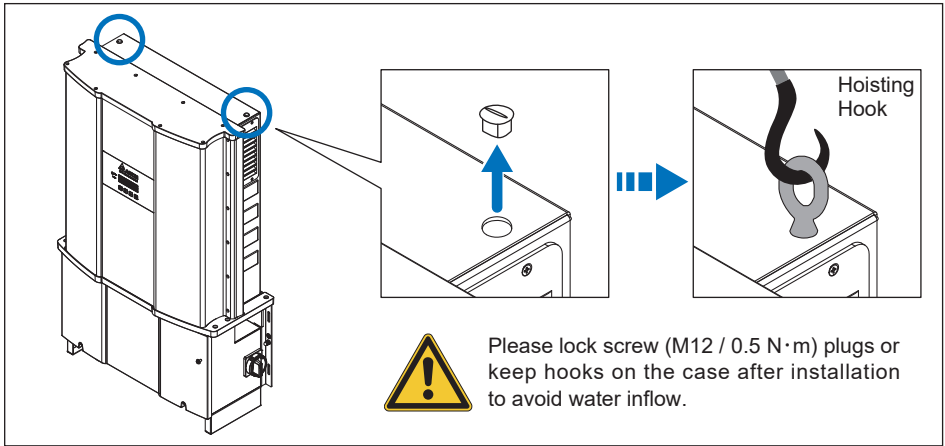

Figure 3-1 : Attaching the Hoisting hooks
2. **Figure 3-1** shows the hoisting hook instruction.